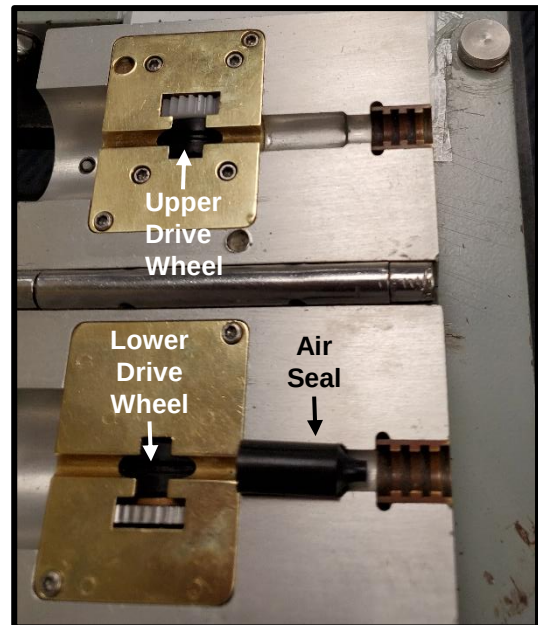

Figure 22
11.3 Select the correct type/size Fiber Bundle Air Seal for the Fiber Bundle to be installed and inspect it for wear. There should be a 3mm Air Seal already Installed in your Blowing Head. (SEL refurbishes each BE300 Kit prior to shipping to each LFI) **See Fig. 22**